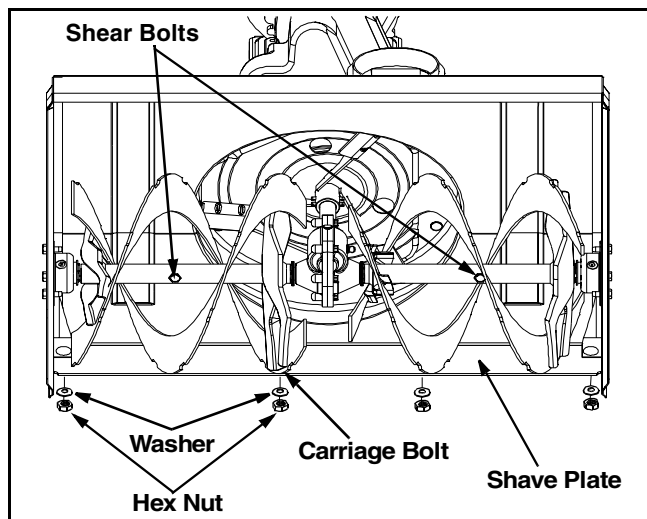

Figure 16
The augers are secured to the spiral shaft with two shear bolts and hex lock nuts. If you hit a foreign object or ice jam, the snow thrower is designed so that the bolts may shear. See Figure 16.
- To remove the shave plate, remove the carriage bolts, bell washers and hex nuts which secure the shave plate to the snow thrower housing. See Figure 16.